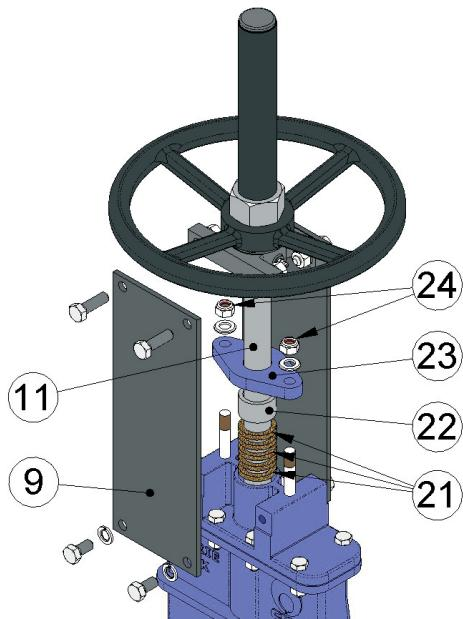

fig. 11
3. Although not essential, for more comfort and more space to work it is advisable to release a support plate (9) as shown in fig. 11.
4. Loosen the nuts (24) and lift the packing gland flange (23) and the packing gland bushing (22) over the stem.
5. Remove the old gasket (21) using a pointed tool, taking care not to damage the surface of the stem (11).
7. Insert the new gasket (21). During this operation it is very important for both ends of each ring to be perfectly joined. Below we show the gasket dimensions (Table 5).
8. Place the packing gland bushing (22) and packing gland flange (23) in their original position, making sure not to touch the stem (11), carefully tighten all the nuts (24) crosswise, ensuring the same distance is left between the packing flange (23) and the stem (11) on both sides, then mount the support plate (9).
Note: The numbers in brackets refer to fig. 11.